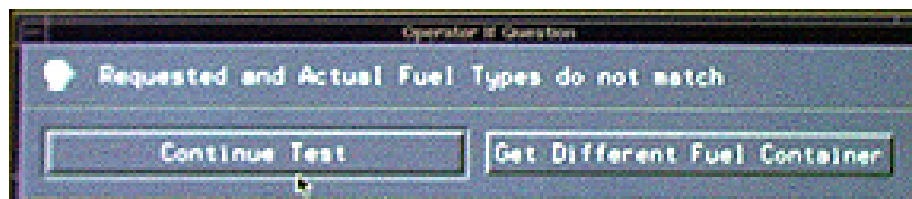

Figure 6
- 7.11 On the “Operator If Question” screen you have 2 options. One option is to “Get Different Fuel Container” and the other is “Continue Test.” See Figure 6. If the container ID is correct, click on the “Continue Test” button. If not click on the “Get Different Fuel Container.”